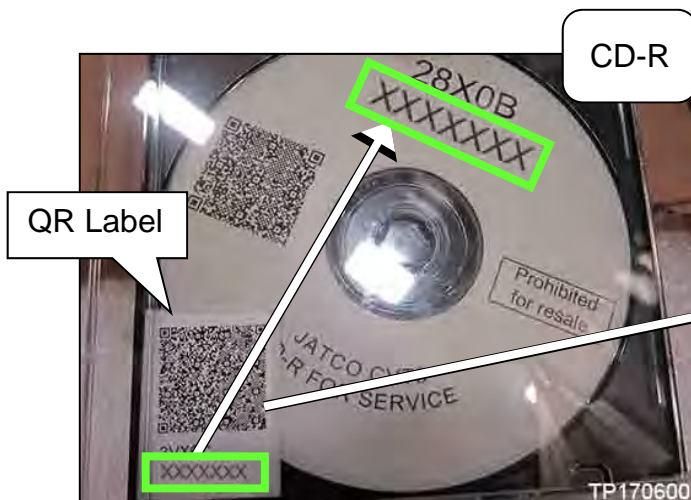
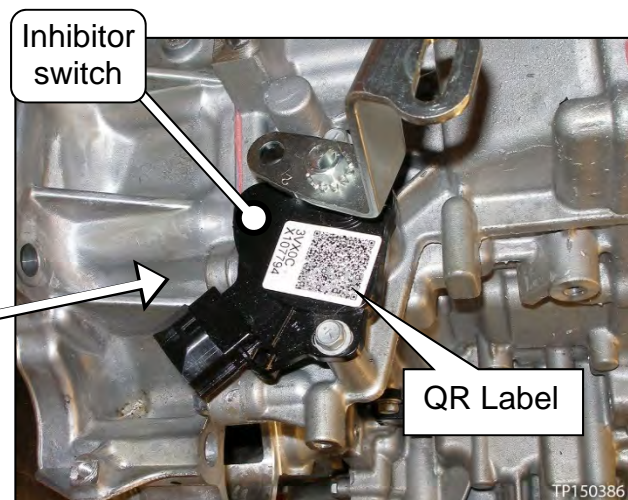

Figure 186
Figure 187
157. Attach the QR label (Figure 186) with the new calibration data onto the transmission range switch (inhibitor switch Figure 187).
- Confirm that the QR label and the CD-R part numbers are the same (Figure 186).